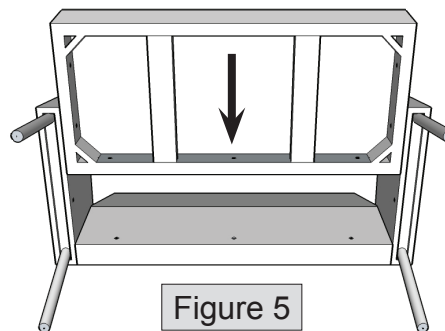

Figure 5
8. Lay assembly on its back on a soft, clean surface and slide seat cushion into place, as shown in figure 5.